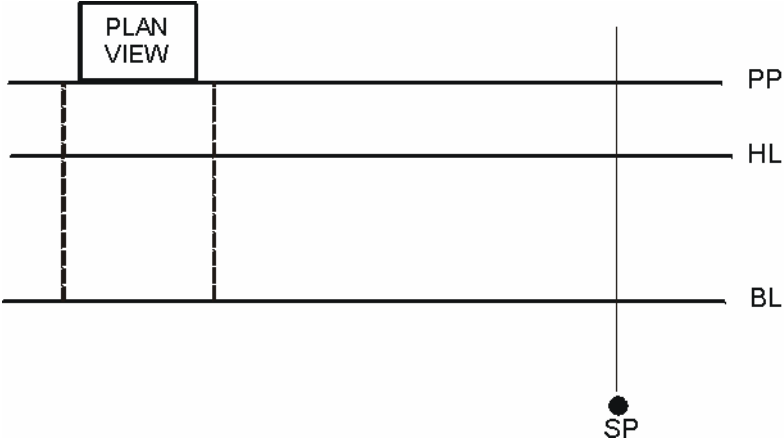

Figure C-5. Projecting the width of the plane view to the baseline.
NOTE: See Figure C-5 for steps (4) through (6).
- (4) Draw the baseline, placing it below the picture plane, but parallel to it.
- (5) Locate the station point, placing it at a distance not less than twice the width of the object (obtain this measurement from the plan view). You can also place it two or three times the object's greatest length from the nearest point of the plan view. If it is placed any closer, distortion of the perspective drawing will result. The station point can be located directly in front of or to the side of the plan view.
- (6) Project the width of the plan view to the baseline.